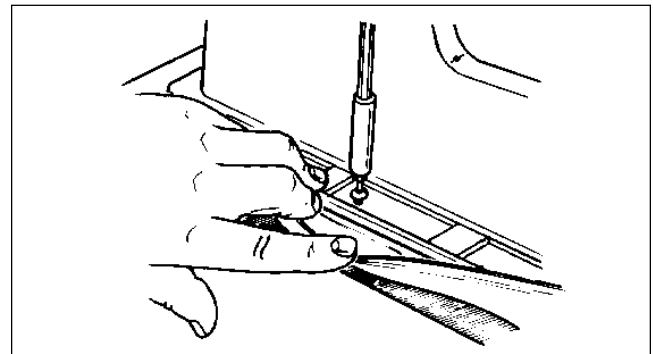

Figure 163
4. Install the screws supplied in FIP Door Gasket Screw Kit (#4318172). See Figures 163 and 164.